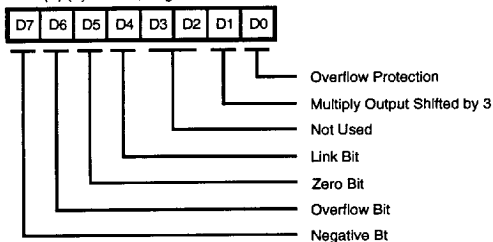

Figure 48. DSP Status Register 1
Register INDIRECT addressing is the method of addressing within the Z86C95's DSP. This is accomplished by means of four register pointers, two for each bank. These pointers are R0 and R1 for DSP RAM(0) and R2 and R3 for DSP RAM(1). The register pointers are located within the Z8/DSP interface register bank (Bank F in both ERF (A) and ERF (B)). For example, "LDI R0, 14" will load "14" into the register pointer R0. If followed by an instruction "LD (R0)" for example the contents of the register in DSP RAM0 whose address is "14" will be loaded into the accumulator (Figures 48 and 49).